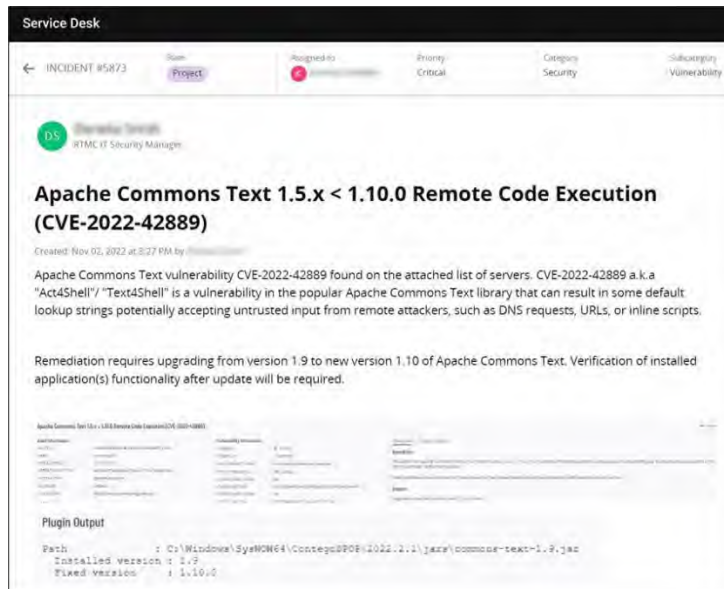

Figure 3. A SolarWinds Service Desk Security Vulnerability Incident
2. If an identified vulnerability requires remediation from multiple stakeholders, a Security Team creates a SolarWinds Service Desk Security Vulnerability incident and assigns it to the Vulnerability Project Manager, as shown in the example in Figure 3.